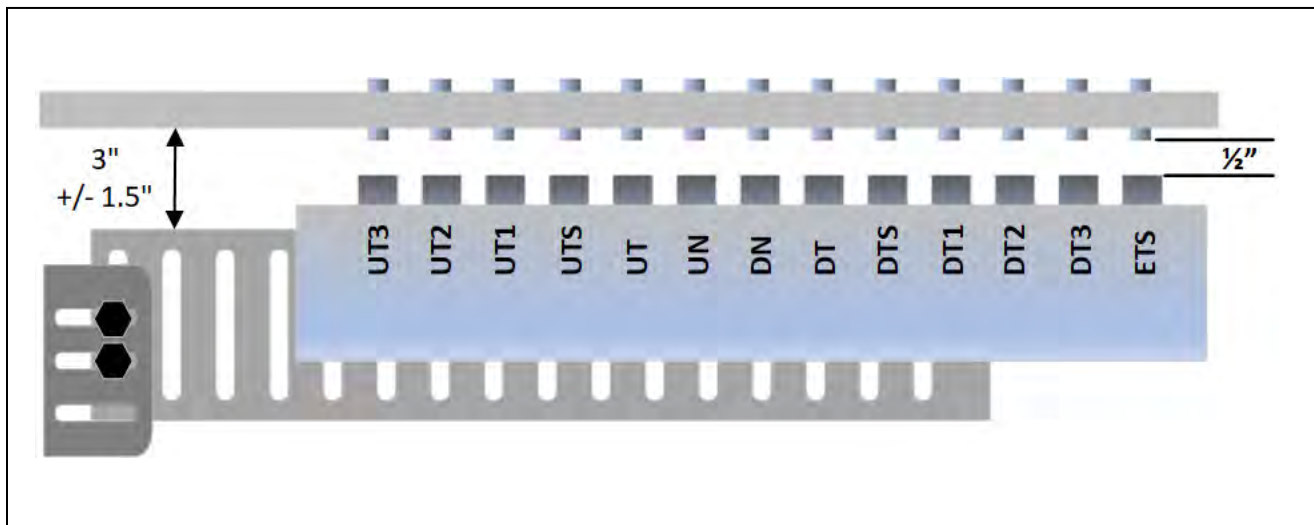

Figure 2-24: Tapeless Selector 7 Limit Switch Box Top View
- The edge of the bracket closest to the J-hook brackets should be approximately 3 inches from the back of the rail. See Figures 2-24.
- The actuating magnets should be adjusted so that the end of the magnet is 1/2 inch from the face of the magnetic switch as the magnetic switch passes the actuating magnet. See Figure 2-24.